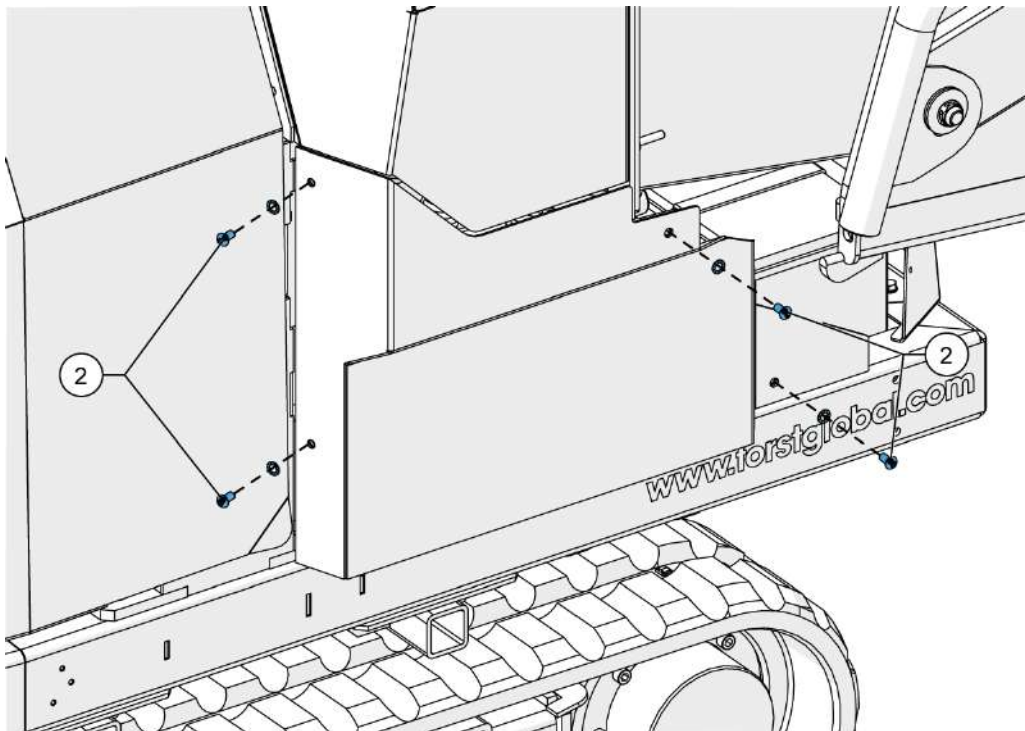

Figure 58 - Remove bolts
3. Remove the bolts securing the panel (2, Figure 58).